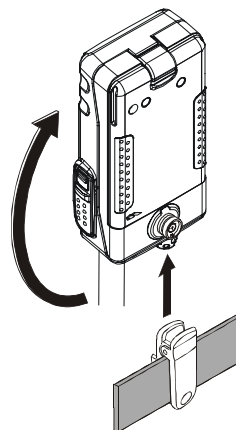

Figure 4
- ❑ To remove the **VX-120** from the Quick-Draw Belt Clip, rotate the **VX-120** 180 degrees, then slide the **VX-120** out from the Quick-Draw Belt Clip (Figure 4).